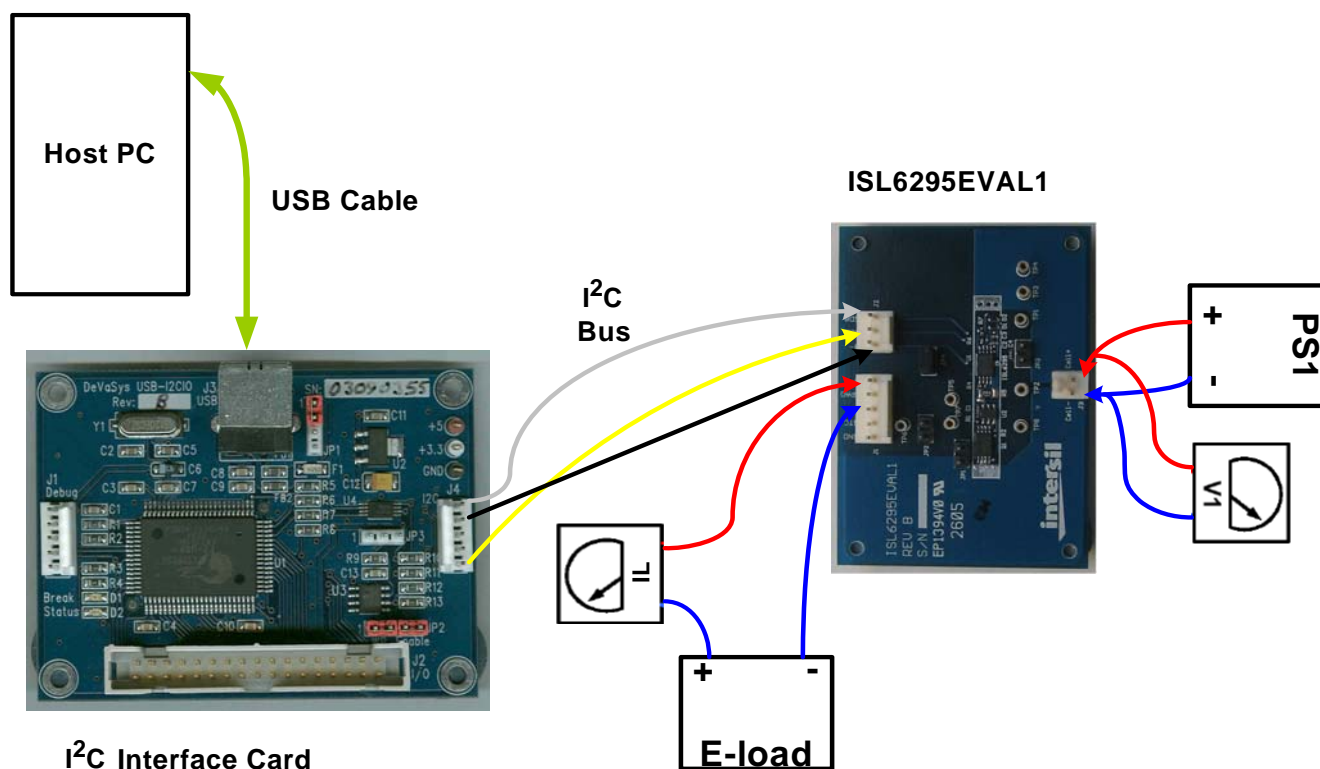

FIGURE 1. CONNECTION OF INSTRUMENTS
- Step 2: Connect the I2C wire harness (provided) between J4 of the I2C Interface card and J2 of the ISL6295EVAL1 as shown in Figure 1.
- Step 5: Connect the ammeter IL and the E-load between B+ and B- pins of J1 as shown in Figure 1. Set the E-load to sink 1.0A current. Follow the Current Measurement procedure in next section to check the current A/D result. The result should be a negative number, indicating a discharge current.